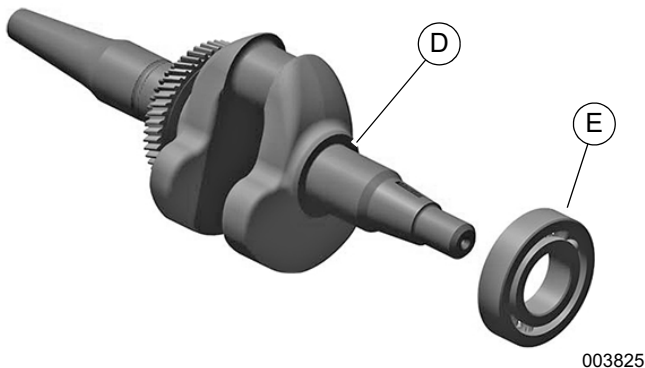

Figure 14-7. Main Bearing Installation
3. See Figure 14-7. Verify crankshaft and main bearing mating surface (D) are clean and free of burrs and debris. Press main bearing (E) onto crankshaft until fully seated against mating surface.